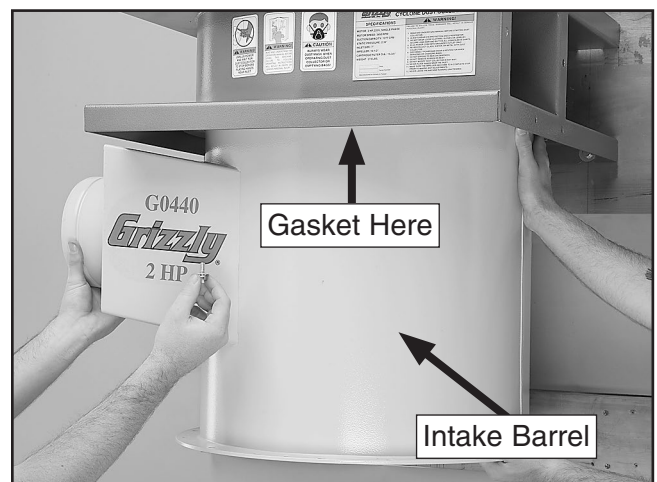

Figure 12. Securing blower on intake barrel.
4. Temporarily attach the intake barrel to the housing with a barrel gasket in between, as shown in **Figure 12**, using (4) $\frac{5}{16}$ "-18 x $\frac{3}{4}$ " hex bolts and (4) $\frac{5}{16}$ " flat washers—and only snug the bolts, rather than fully tighten them.
7. Use the (12) $\frac{5}{16}$ "-18 x $\frac{3}{4}$ " hex bolts and (12) $\frac{5}{16}$ " flat washers to re-install the intake barrel to the housing with a barrel gasket in between, as shown in **Figure 12** on the previous page.